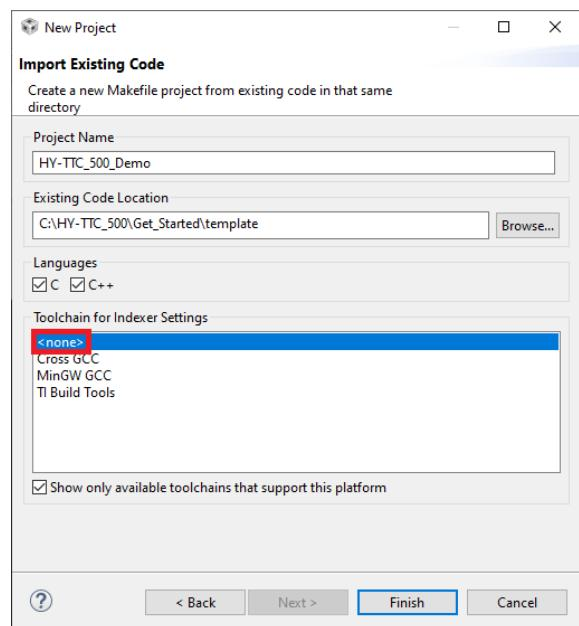

Figure 5.12: Import Existing Code page
4. On the **Import Existing Code** page, fill the fields as follows (see Figure 5.12 on the next page):